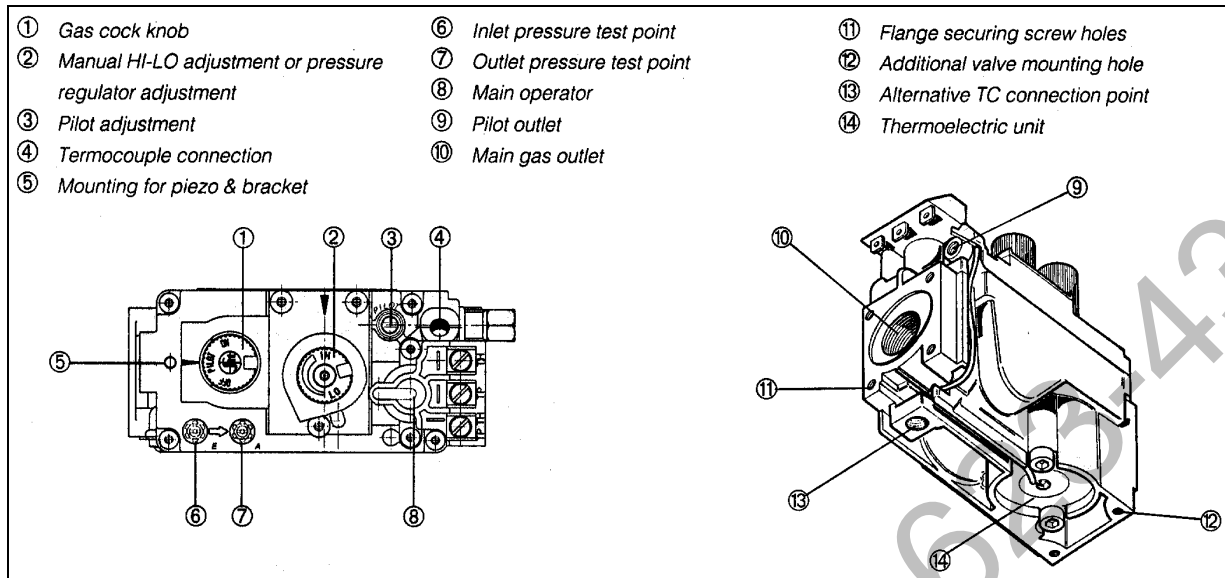

Figure 6
Once connected to the gas supply, the gas inlet pressure and manifold gas pressure must be tested. The gas inlet tap (6) and manifold pressure tap (7) is located on the control valve (see Figure 6). Connect a manometer to the test points on the gas control valve.